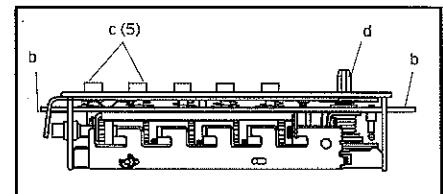

Fig. 2
- 2 Hold the chamber in one hand by the screw tab (b) on each end with the key-stems (c) facing you and the control shaft (d) at the bottom (See Figure 2).
- 3 Using pliers or equivalent, rotate the control shaft (d) counter-clockwise and release to clear the chamber (See Figure 2).
- 11 Depress the key-stem/s (c) that you want in your new combination, releasing each after it is depressed (See Figure 2).